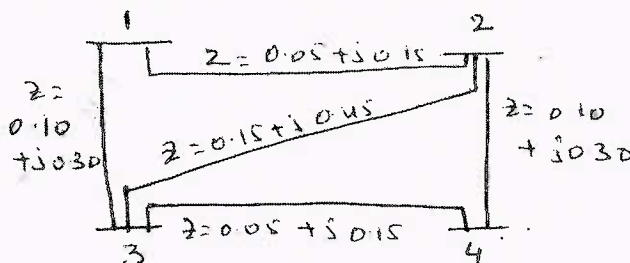

Fig.Q2(b)
- b. For the sample system of Fig.Q2(b), the generations are connected to all the 4-buses, while loads are at buses 2 and 3. Values of real and reactive powers are listed in Table Q2(b). All buses other than the slack bus are PQ type. (10 Marks)